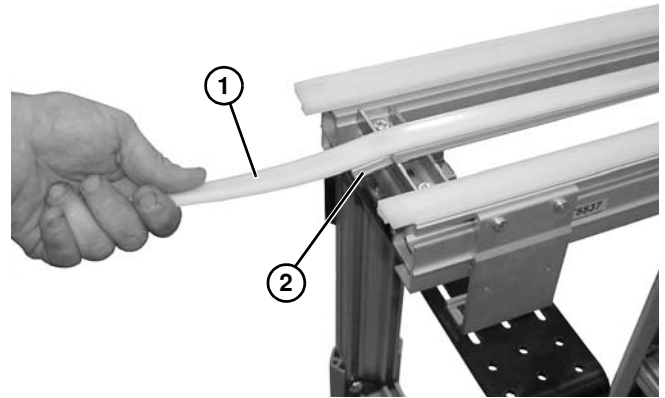

Figure 89
2. Slide center rail (**Figure 89, item 1**) from frame assembly (**Figure 89, item 2**).